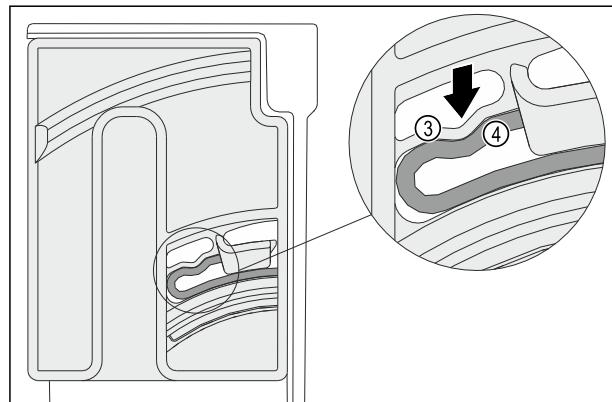

Fig. 129
- ▶ The elastic element Fig. 129 (3) of the turning unit audibly engages in the round shape of the rib Fig. 129 (4).